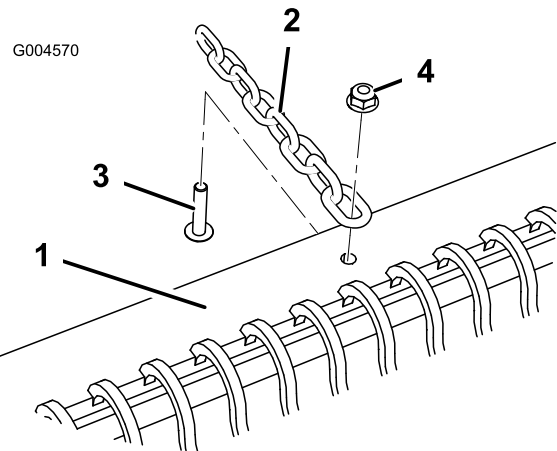

Figure 3
2. Secure the other end of the chain to the drag mat using a screw (5/16 x 1-1/2 inches) and lock nut (5/16 inch) (Figure 3).